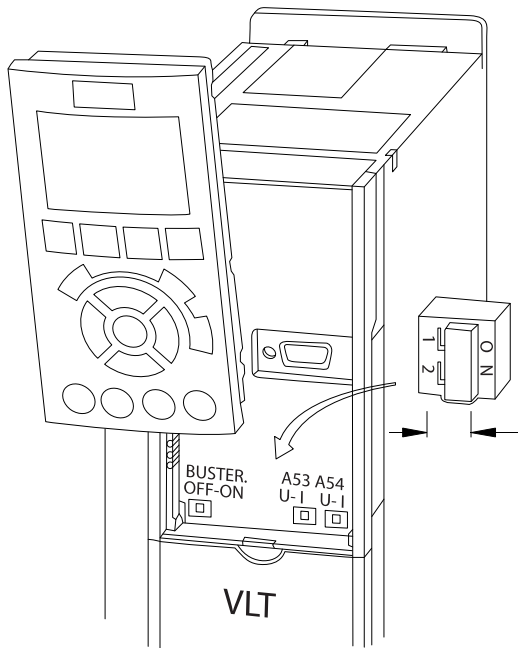

Figure 4.17 Location of Terminal 53 and 54 Switches
1. Remove the LCP (see *Figure 4.17*).
- Terminate each segment at both ends, using either the termination switch (bus term on/off, see Figure 4.17) on the frequency converters, or a biased termination resistor network.